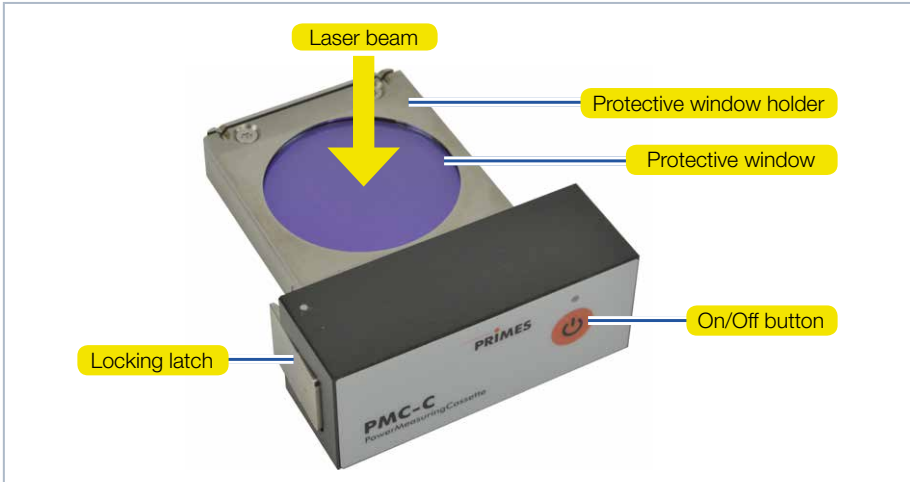

Fig. 5.1: System description of the PMC-C
5. Insert the device into the slot of the laser processing head until the locking latch locks in place (see Fig. 5.1 on page 11).
3. Press the locking latch (see Fig. 5.1 on page 11) and remove the device from the laser processing head.